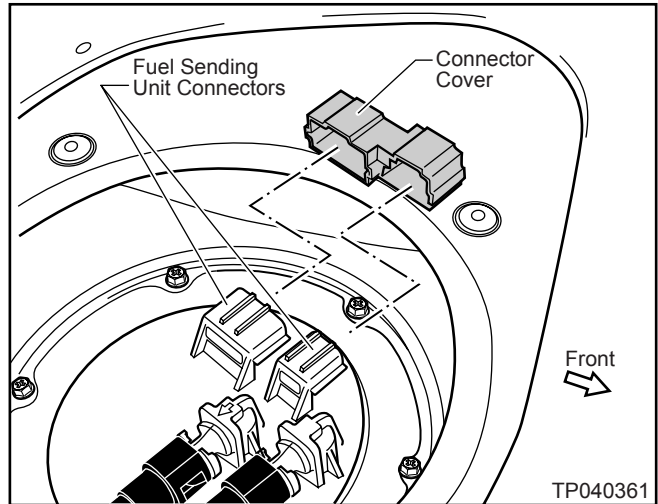

Figure 27
5. Install the Connector Cover onto the Fuel Sending Unit Connectors until it is fully seated. See Figure 27.